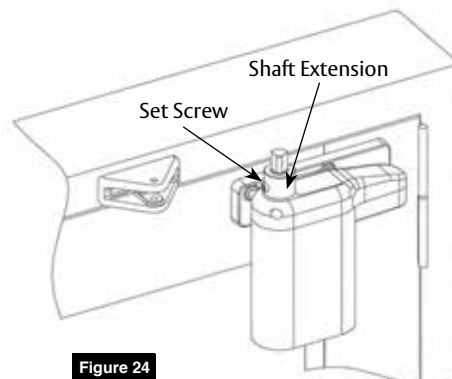

Figure 24
1. Install shaft extension onto pinion shaft and tighten set screw to secure. (Figure 24)